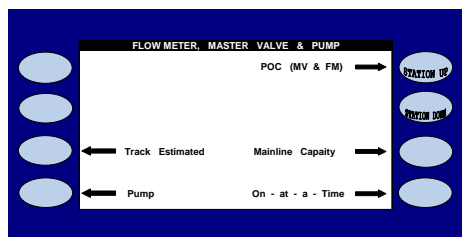

Figure 4.1
The FLOW METER, MASTER VALVE & PUMP screen is displayed (Figure 4.1).
From the FLOW METER, MASTER VALVE & PUMP screen (Figure 4.1).
-  Press the **BACK** key twice to return to the FLOW METER, MASTER VALVE, & PUMP screen (Figure 4.1).